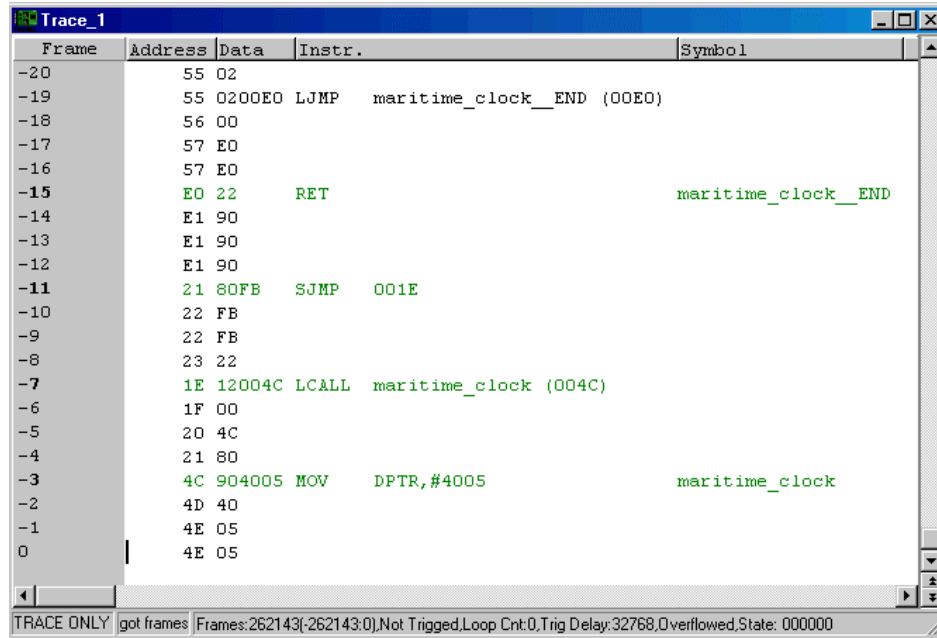

Figure 139. Trace Display Window
4. From the Condition A line, right-click and select **Edit**. The **Edit Data Condition** dialog box opens (Figure 139).
7. Click **OK** in the Trace Configuration window (Figure 139).